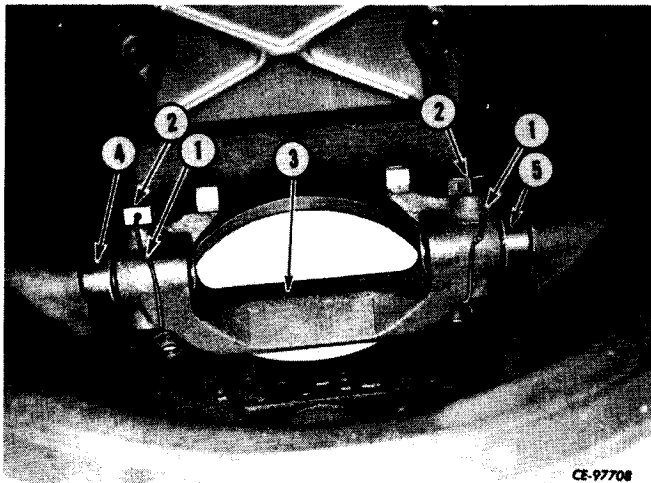

Figure 4-14
Cut lock wires (1, Fig. 4-14) and remove lock screws (2) from yoke (3). Drive shaft (4) into housing and remove yoke (3). Remove shafts (4, 5) from housing.